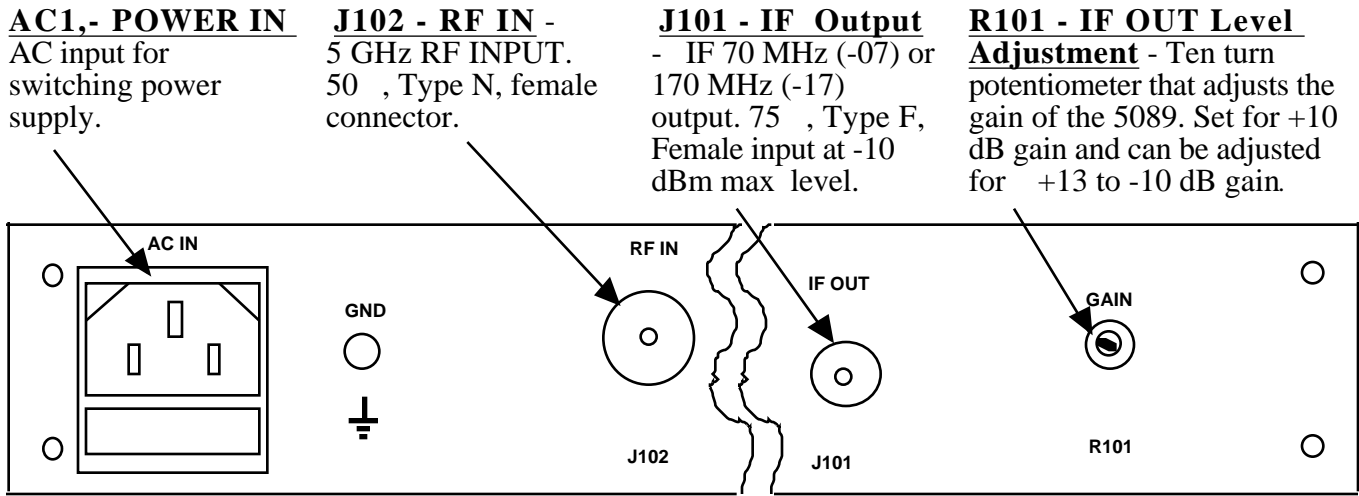

FIGURE 2.1 5089 REAR PANEL I/Os and LEVEL CONTROL
2.2 Rear Panel Input/Output Signals and Level Control - Figure 2.1 shows the input and output connectors on the rear panel.
- 1.) Connect a -25 to -45 dBm signal to RF In, J102 (Figure 2.1)